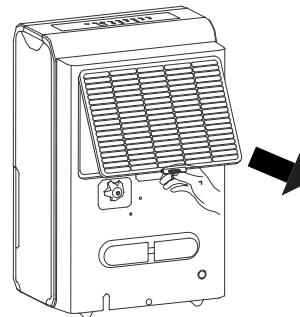

Fig. 10
- Remove the filter from the top of the unit (see Fig. 10).